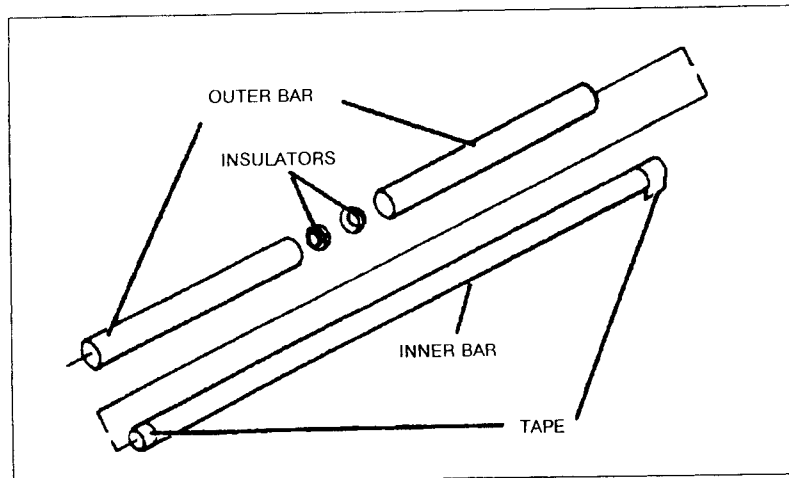

Figure 6-48. Ribbon Reversing Sense Bar Assembly
The ribbon reversing sense bar consists of two 1/2-length outer bars separated by two plastic insulators, an inner bar and two lug washers (see Figure 6-48).
- a. Insert the inner bar through one of the outer bars, then through the two insulators, and then through the other outer bar (see Figure 6-48). Make sure that the inner bar has tape wrapped around both ends. This tape insulates the lug washers, which are installed in the next step, from the inner bar. The insulating tape on each end of the threaded spacer (Figure 6-48) must consist of a **SINGLE** wrap of 3/4 inch electrical tape (P/N 0460-1621) or transparent mending tape, located approximately 1/32 to 1/16 inch from each end. The butt joint of the tape should be located 90 degrees away in either direction from the lug tab to prevent an electrical short between the lug and threaded spacer or the threaded spacer and the guide.